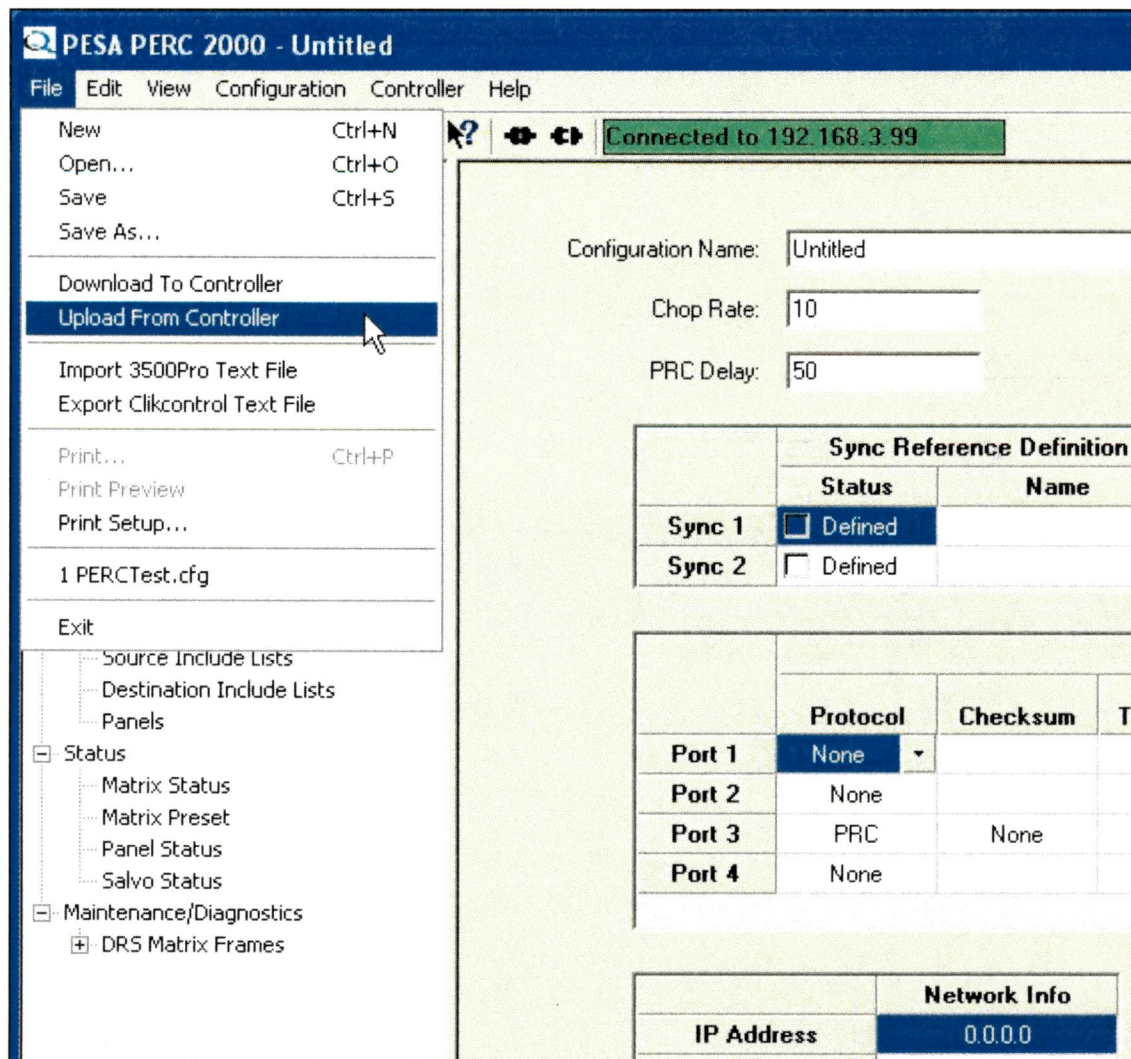

Figure 5. File Menu Listing
- ☐ 1. Ensure that the IP address of the P2K you wish to update is displayed by the Controller Active box and that the box is highlighted green to indicate a functional connection, as shown in Figure 5. If the box is not green or the indicated IP address is not correct, repeat steps 8 and 9 of Paragraph 4 before continuing.
- ☐ 3. Click on the File menu in the Windows™ menu bar and select the “Upload From Controller” option from the menu as shown in Figure 5.